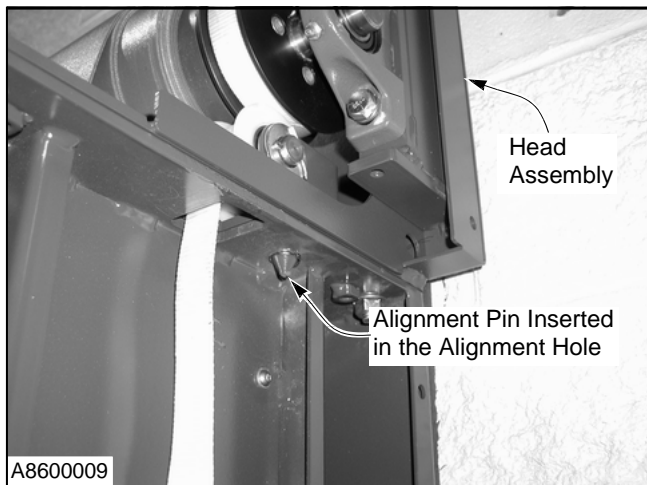

Figure 13
- With the head assembly safely secured to the forklift, place it on top of the side columns. Line up the alignment pin on the head assembly with the alignment hole in the side column. (See Figure 13.)